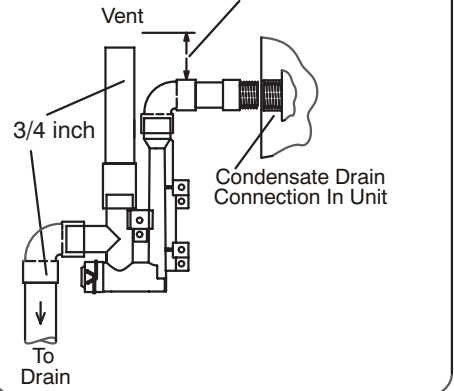

FIGURE 53
- 3 - Install the cap over the clean out opening at the base of the trap. Secure with clamp. See FIGURE 53.
- 4 - Install drain trap using appropriate PVC fittings, glue all joints. Glue the provided drain trap as shown in FIGURE 53. Route the condensate line to an open drain.